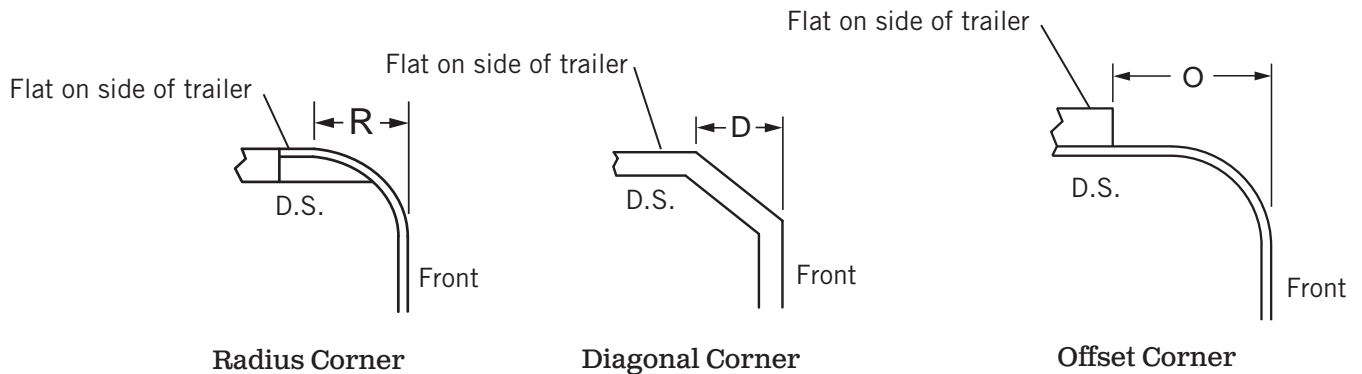

Figure 1
- 1) **Figure 1 & 2.** Mark the top rail where flat on side of trailer starts. Also mark 10" from there for heavy duty bows. The dimension of the **Radius**, **Diagonal**, or **Offset**.